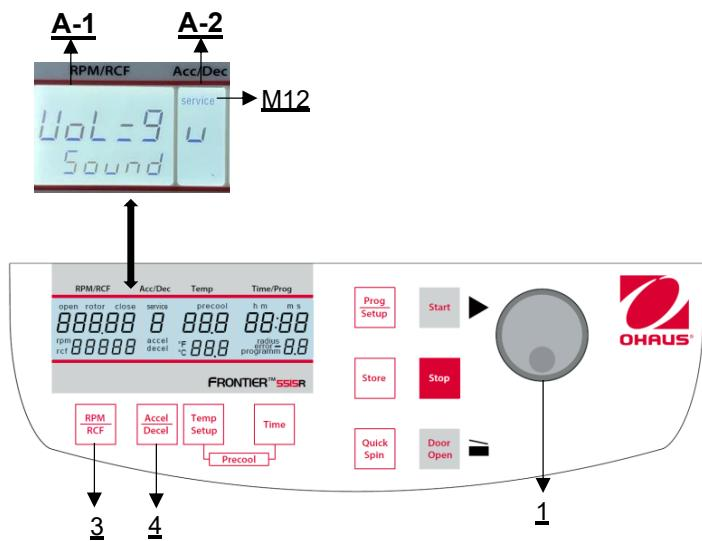

Figure 32
Proceed as described under point 4.1.1 to enter this program mode and then press the key "Accel/Decel" (4). In the display "Acc/Dec" (A-2) the word "Service" (M12) flashes. Now select the letter "U" with the adjusting knob (1). As a result, the words "Vol=9/Sound" appear in the display "RPM | RCF" (A-1). After pressing the key "RPM | RCF" (3), you can adjust the desired volume between 0 (low) and 9 (loud) with the adjusting knob (1) (see Figure 32).